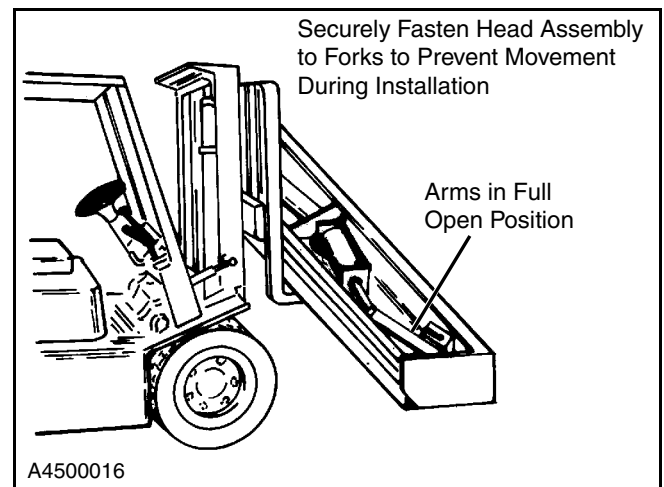

Figure 13
3. Remove the head from the crate using a forklift or other suitable means. Secure the head to the forks using clamps or other suitable method. (See Figure 13.)